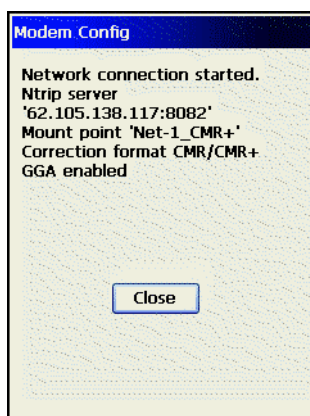

Figure 4-48. Network Connection Started
- **Connect** – to get correction data from the Mount Point. A confirmation message will display (see Figure 4-48 on page 4-38).